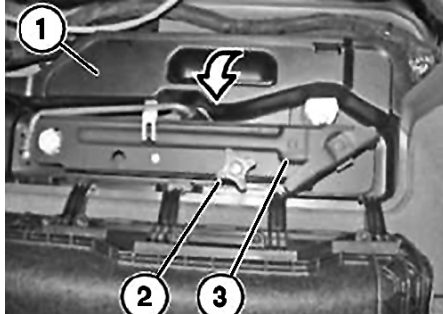

Fig. 4 Car jack & battery cover removal
5. Remove vehicle jack screw (2) and vehicle jack (3), **Fig. 4.**
6. Fold down battery cover (1) in direction of arrow as illustrated in **Fig. 4.**